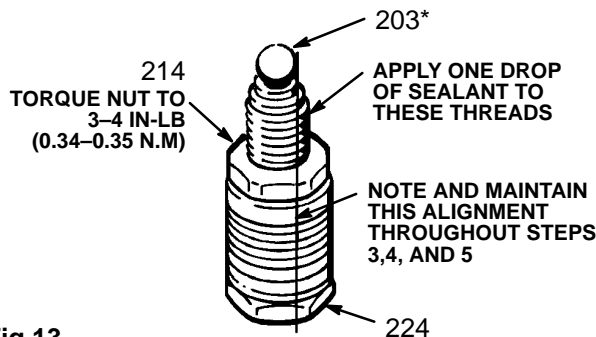

Fig 13
2. Tighten the packing retaining nut (214) onto the piston valve (224) and torque to 3–4 in-lb (0.34 – 0.35 N.m). See Fig 13.
3. Apply 1 drop only of sealant, supplied with the repair kit, to the piston valve threads. Place the small ball (203*) on the valve. See Fig 13. Hand tighten the valve into the rod (223) just until the nut contacts the rod. Place the flats of the displacement rod in a vise.